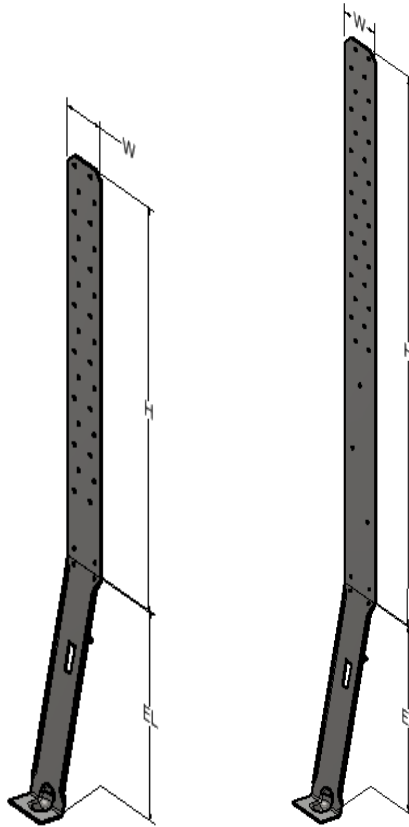

Figure 1. FSTHD and FSTHDJ Strap Tie Hold Downs
1. The products, for which these installation instructions are written, are shown in Figure 1.